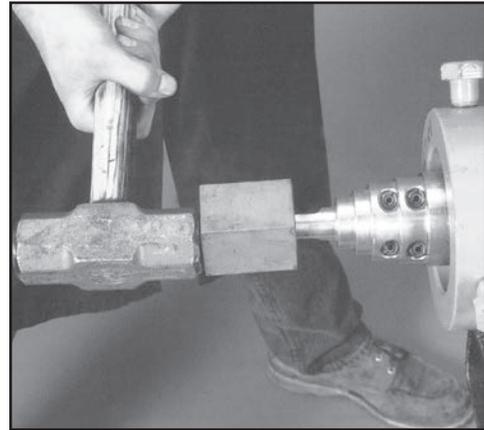

**FIG. 20: REMOVING THE ROLL PINS**
2. Remove the roll pins with a roll pin punch and a hammer (see Fig. 20).